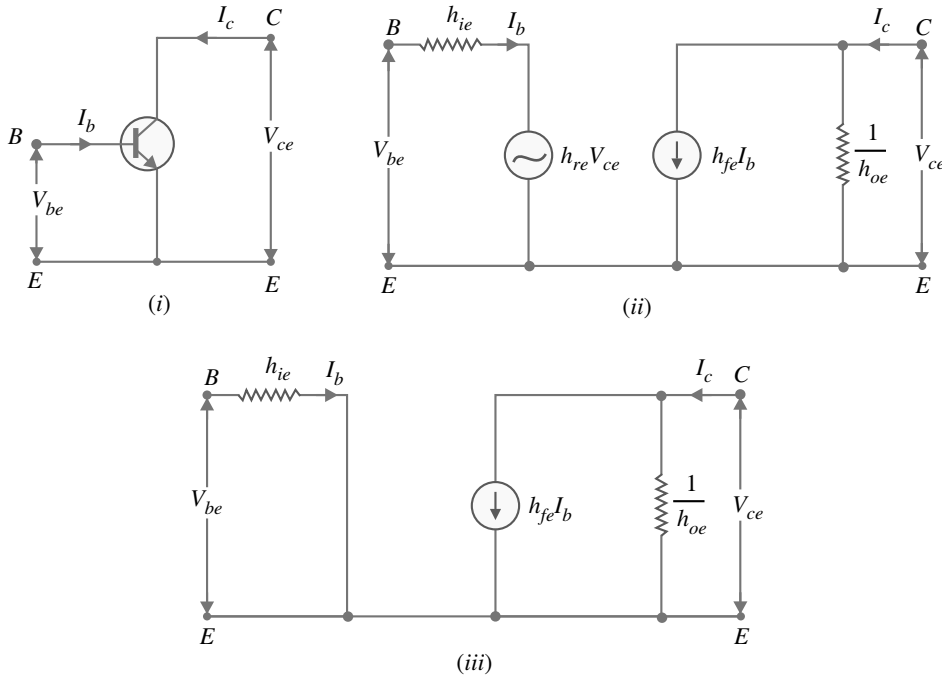

Fig. 22.11
We can visualise a transistor as a two-port or 4-terminal device because one of its three terminals is common to both input and output circuits. Fig. 22.11(i) shows the transistor in common emitter (CE) arrangement. The  $h$  parameter a.c. equations for this circuit are :
Relations (i) and (ii) above can be represented by the circuit shown in Fig. 22.11 (ii) and is called *transistor  $h$  parameter model* or *hybrid equivalent circuit of transistor*. The input resistance  $h_{ie}$  appears in series at the input. The reverse voltage feedback ratio  $h_{re}$  is multiplied by the output voltage ( $V_{ce}$ ) to produce an equivalent voltage source ( $h_{re} V_{ce}$ ) in series with the input. The current gain  $h_{fe}$  is multiplied by the input current ( $I_b$ ) to produce an equivalent current source ( $h_{fe} I_b$ ) in the output. The output conductance  $h_{oe}$  appears across the output terminals. Although  $V_{ce}$  can be very much greater than  $V_{be}$  due to voltage gain obtainable from the transistor,  $h_{re}$  is very small (typically  $5 \times 10^{-4}$ ) and hence  $h_{re} V_{ce}$  is small in comparison to  $V_{be}$ . Therefore, this voltage source (i.e.  $h_{re} V_{ce}$ ) can be removed from the input side without any large error. This produces the *simplified hybrid equivalent circuit of transistor* as shown in Fig. 22.11 (iii). The following points may be noted about the hybrid equivalent circuit of a transistor :